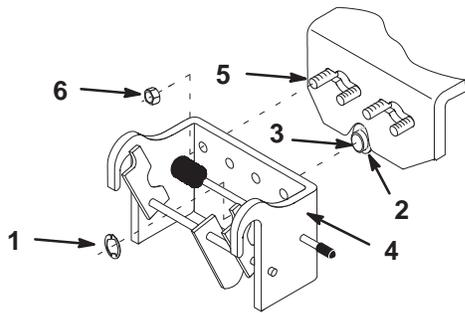

Figure 7
1. Remove the E-ring and all except one thick washer from the front axle, pivot pin (Fig. 7). Discard unused washers.
3. Install 4 short shoulder bolts (3/8 x 1 in.) into the keyhole slots in the axle bracket (Fig. 7).
4. Install the muffler shield and place the front hitch onto the tractor, securing it with 4 locknuts (3/8 in.) and the previously removed E-ring (Fig. 7).